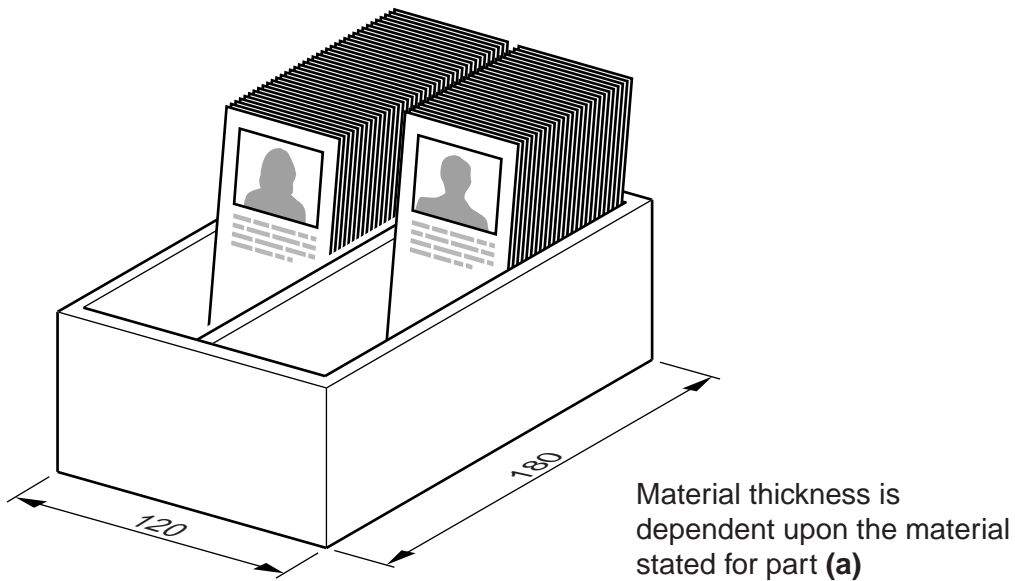

Fig. 2
- 2 Fig. 2 shows an outline design for a card indexing unit.
- (a) State a suitable material for an indexing unit of the type shown in Fig. 2 and give **two** reasons for your choice. [3]